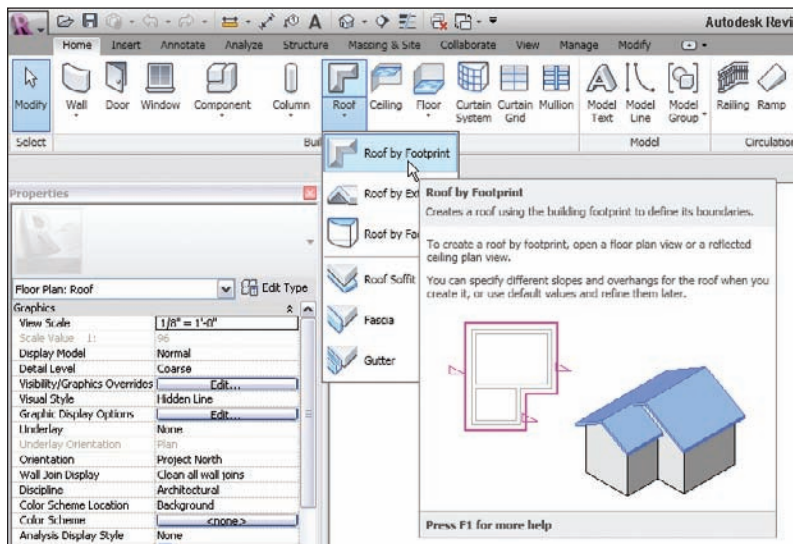

FIGURE 7.2 Clicking Roof By Footprint on the Home tab of the Design bar
6. On the Home tab, click Roof > Roof By Footprint, as shown in Figure 7.2.